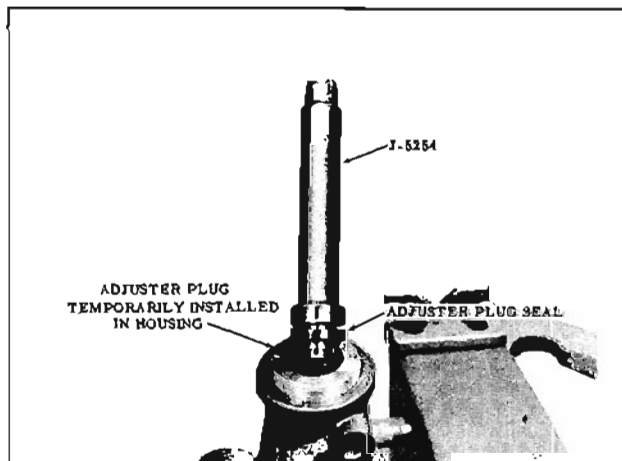

Fig. 8-52 Installing Seal
2. If seal was removed, temporarily install the adjuster plug in the gear housing and place dust seal and a new oil seal on Tool J-5254 (tip of seal away from tool). Lubricate seal with Hydra-Matic oil and drive or press seal into adjuster plug just far enough to provide clearance for the retaining ring. (Fig. 8-52) Tool J-5254 must be free of burrs that could scratch the seal.